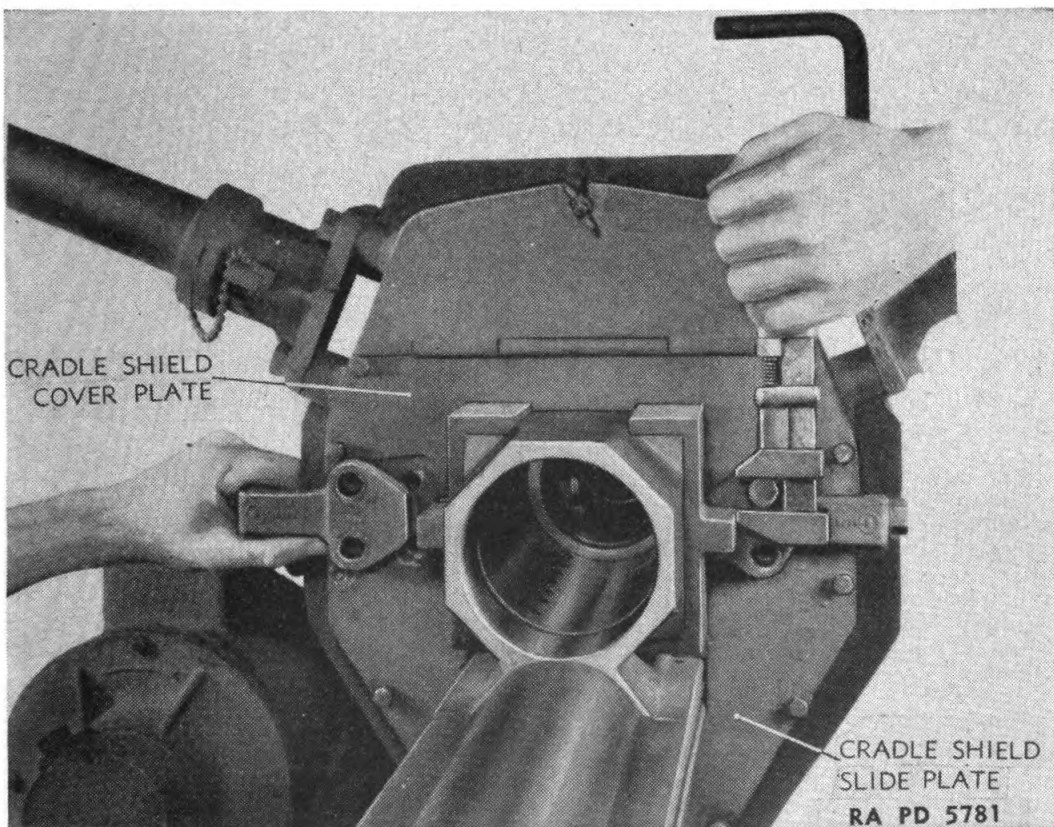
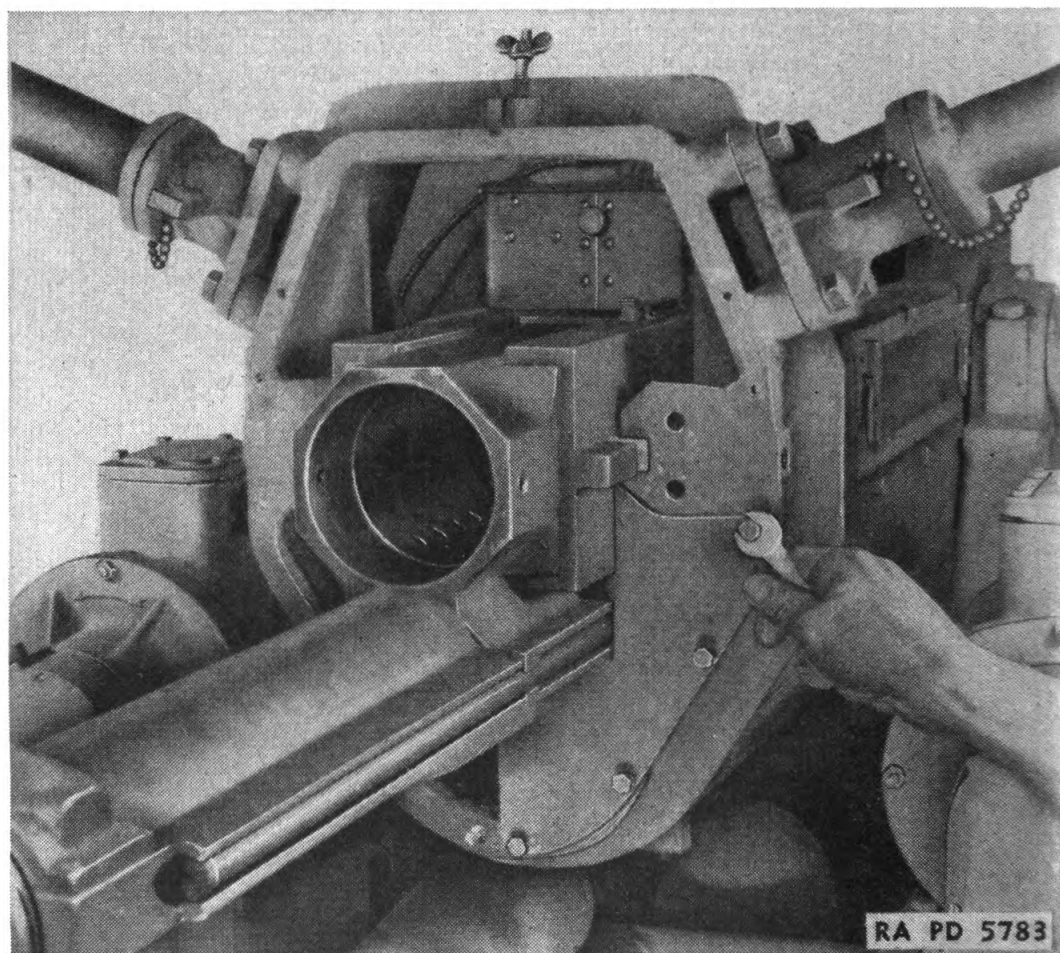
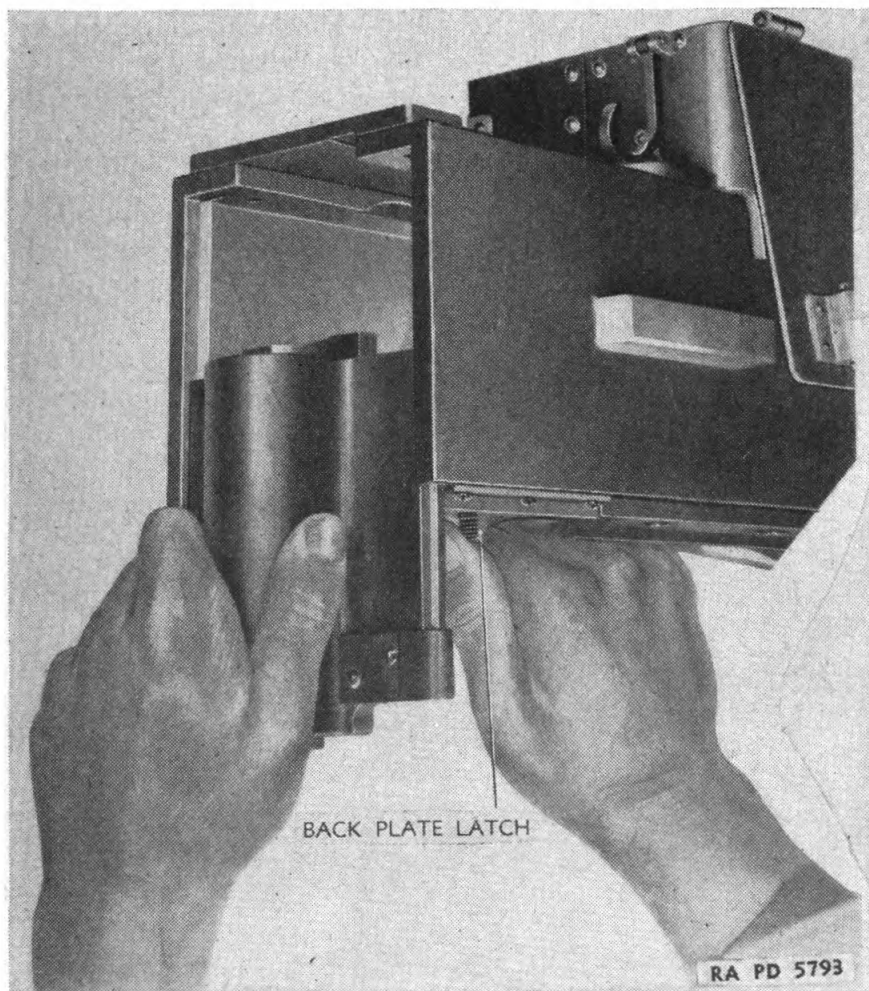

FIGURE 53.—Removing gun mounting keys.
FIGURE 54.—Removing cradle shield slide plates.
FIGURE 55.—Removing back plate assembly.
(4) Remove the two gun mounting keys, each held in place by 3 cap screws (fig. 53).
(5) Remove the cradle shield cover plate held in place by 4 cap screws (M3A1 carriage).
(6) Remove the 2 cradle shield slide plates, each held by 4 cap screws (fig. 54).
(7) Slide the gun out of the cradle. Three or four men will be required to carry the gun to a suitable resting place.
**66. Back plate assembly.**—*a. Removal.*—Depress the back plate latch and slide the back plate assembly down and out of the slide (fig. 55).